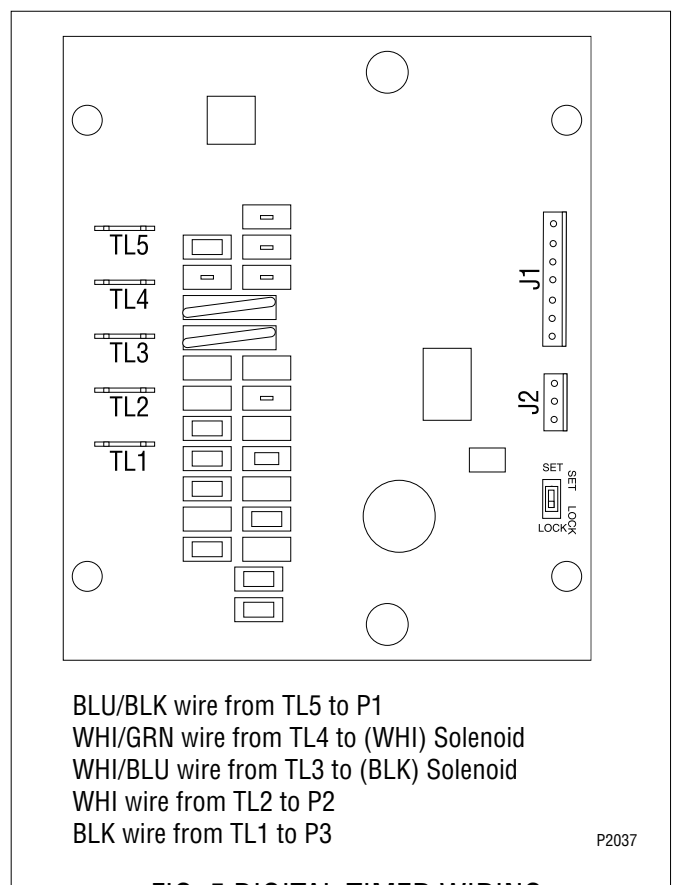

FIG. 5 DIGITAL TIMER WIRING
4. Attach all wires to the replacement timer board prior to installation to the component mounting bracket. Refer to FIG. 5 when reconnecting the wires.